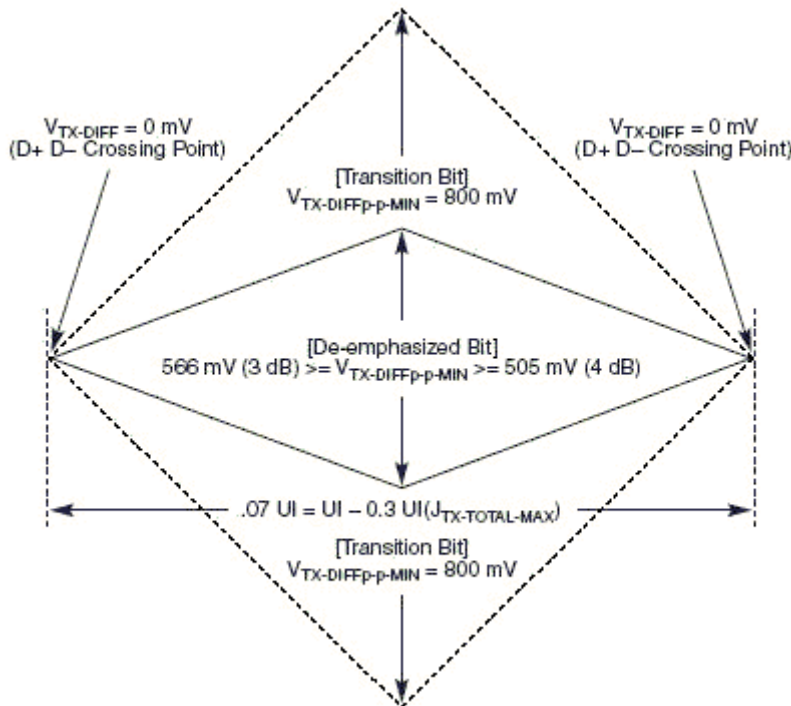
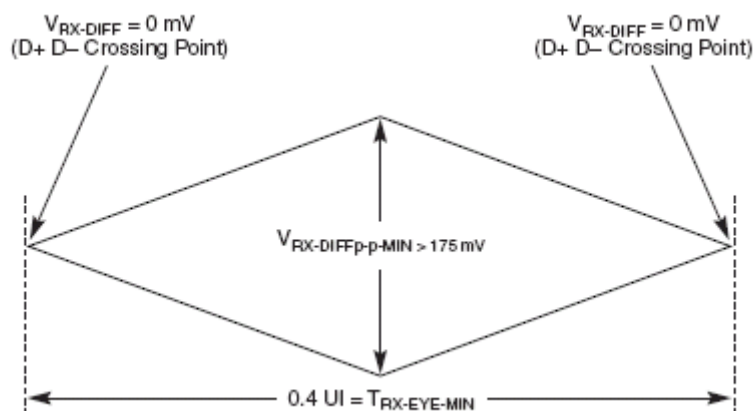
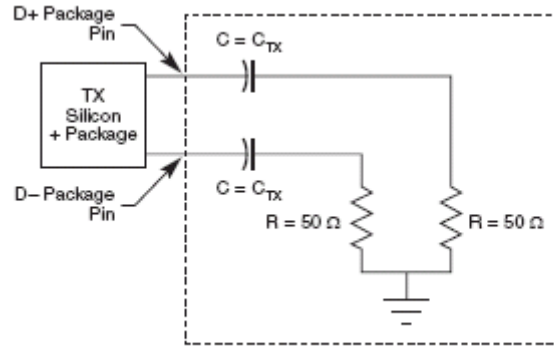

Figure 49. Minimum Transmitter Timing and Voltage Output Compliance Specifications
Figure 50. Minimum Receiver Eye Timing and Voltage Compliance Specification
Figure 51. Compliance Test/Measurement Load
2. Specified at the measurement point into a timing and voltage compliance test load as shown in Figure 51 and measured over any 250 consecutive TX UIs. (Also refer to the transmitter compliance eye diagram shown in Figure 49)
4. The Transmitter input impedance shall result in a differential return loss greater than or equal to 12 dB and a common mode return loss greater than or equal to 6 dB over a frequency range of 50 MHz to 1.25 GHz. This input impedance requirement applies to all valid input levels. The reference impedance for return loss measurements is  $50 \Omega$  to ground for both the D+ and D- line (that is, as measured by a Vector Network Analyzer with 50 ohm probes—see Figure 51). Note that the series capacitors  $C_{TX}$  is optional for the return loss measurement.
5. Measured between 20-80% at transmitter package pins into a test load as shown in Figure 51 for both  $V_{TX-D+}$  and  $V_{TX-D-}$ .
The TX eye diagram in Figure 49 is specified using the passive compliance/test measurement load (see Figure 51) in place of any real PCI Express interconnect + RX component.
2. Specified at the measurement point and measured over any 250 consecutive UIs. The test load in Figure 51 should be used as the RX device when taking measurements (also refer to the Receiver compliance eye diagram shown in Figure 50). If the clocks to the RX and TX are not derived from the same reference clock, the TX UI recovered from 3500 consecutive UI must be used as a reference for the eye diagram.
4. The Receiver input impedance shall result in a differential return loss greater than or equal to 15 dB with the D+ line biased to 300 mV and the D- line biased to -300 mV and a common mode return loss greater than or equal to 6 dB (no bias required) over a frequency range of 50 MHz to 1.25 GHz. This input impedance requirement applies to all valid input levels. The reference impedance for return loss measurements for is 50 ohms to ground for both the D+ and D- line (that is, as measured by a Vector Network Analyzer with 50 ohm probes—see Figure 51). Note: that the series capacitors CTX is optional for the return loss measurement.
The RX eye diagram in Figure 50 is specified using the passive compliance/test measurement load (see Figure 51) in place of any real PCI Express RX component.
Note: In general, the minimum Receiver eye diagram measured with the compliance/test measurement load (see Figure 51) will be larger than the minimum Receiver eye diagram measured over a range of systems at the input Receiver of any real PCI Express component. The degraded eye diagram at the input Receiver is due to traces internal to the package as well as silicon parasitic characteristics which cause the real PCI Express component to vary in impedance from the compliance/test measurement load. The input Receiver eye diagram is implementation specific and is not specified. RX component designer should provide additional margin to adequately compensate for the degraded minimum Receiver eye diagram (shown in Figure 50) expected at the input Receiver based on some adequate combination of system simulations and the Return Loss measured looking into the RX package and silicon. The RX eye diagram must be aligned in time using the jitter median to locate the center of the eye diagram.
The reference impedance for return loss measurements is 50. to ground for both the D+ and D- line (that is, as measured by a Vector Network Analyzer with 50. probes—see Figure 51). Note that the series capacitors, CTX, are optional for the return loss measurement.
The AC timing and voltage parameters must be verified at the measurement point, as specified within 0.2 inches of the package pins, into a test/measurement load shown in Figure 51.